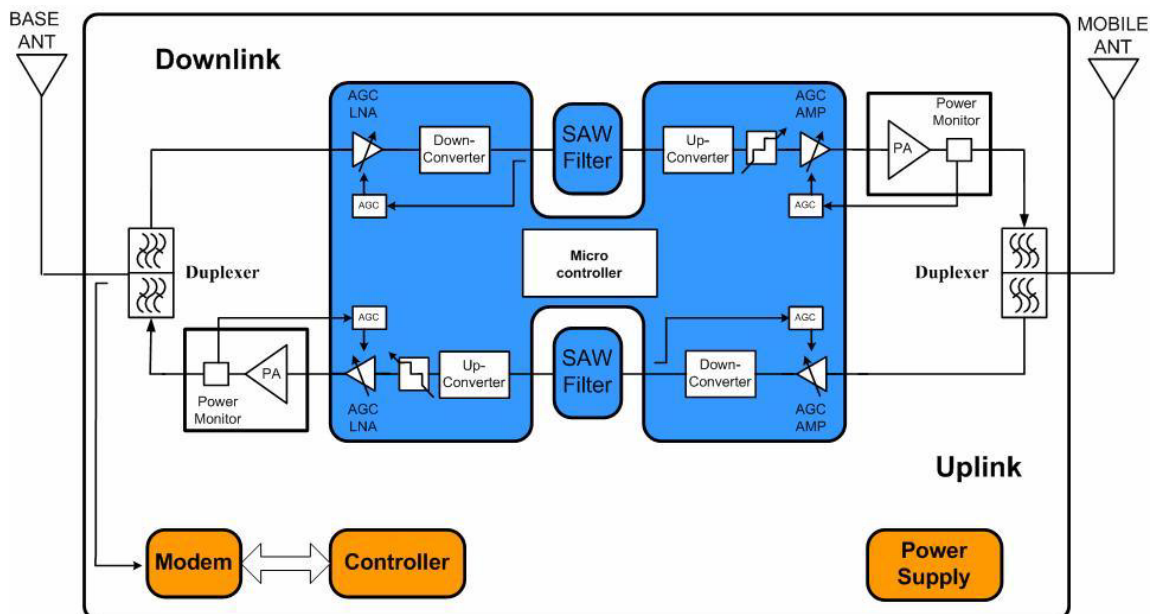

Figure 1: CDMA Repeater - Block Diagram
The incoming signal processing in the CDMA Repeater is processed similarly for both the Uplink and Downlink paths. Figure 1 provides a functional block diagram of the CDMA Repeater.
The block diagram showed in Figure 1 illustrates the overall functionality of the CDMA Repeater. Dekolink's programmable CDMA Repeaters employ advanced up/down conversion Intermediate Frequency (IF) Surface Acoustic Waves (SAW) filtering architecture. This new technology offers distinct advantages over conventional repeaters, when high adjacent selectivity and spectrum purity is required.